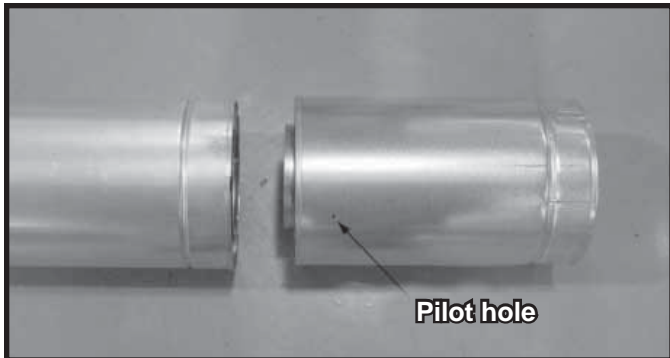

Figure 10.5 Slip Section Pilot Holes
- Slide the inner flue of the slip section into the inner flue of the pipe section and the outer flue of the slip section over the outer flue of the pipe section. See Figure 10.5.